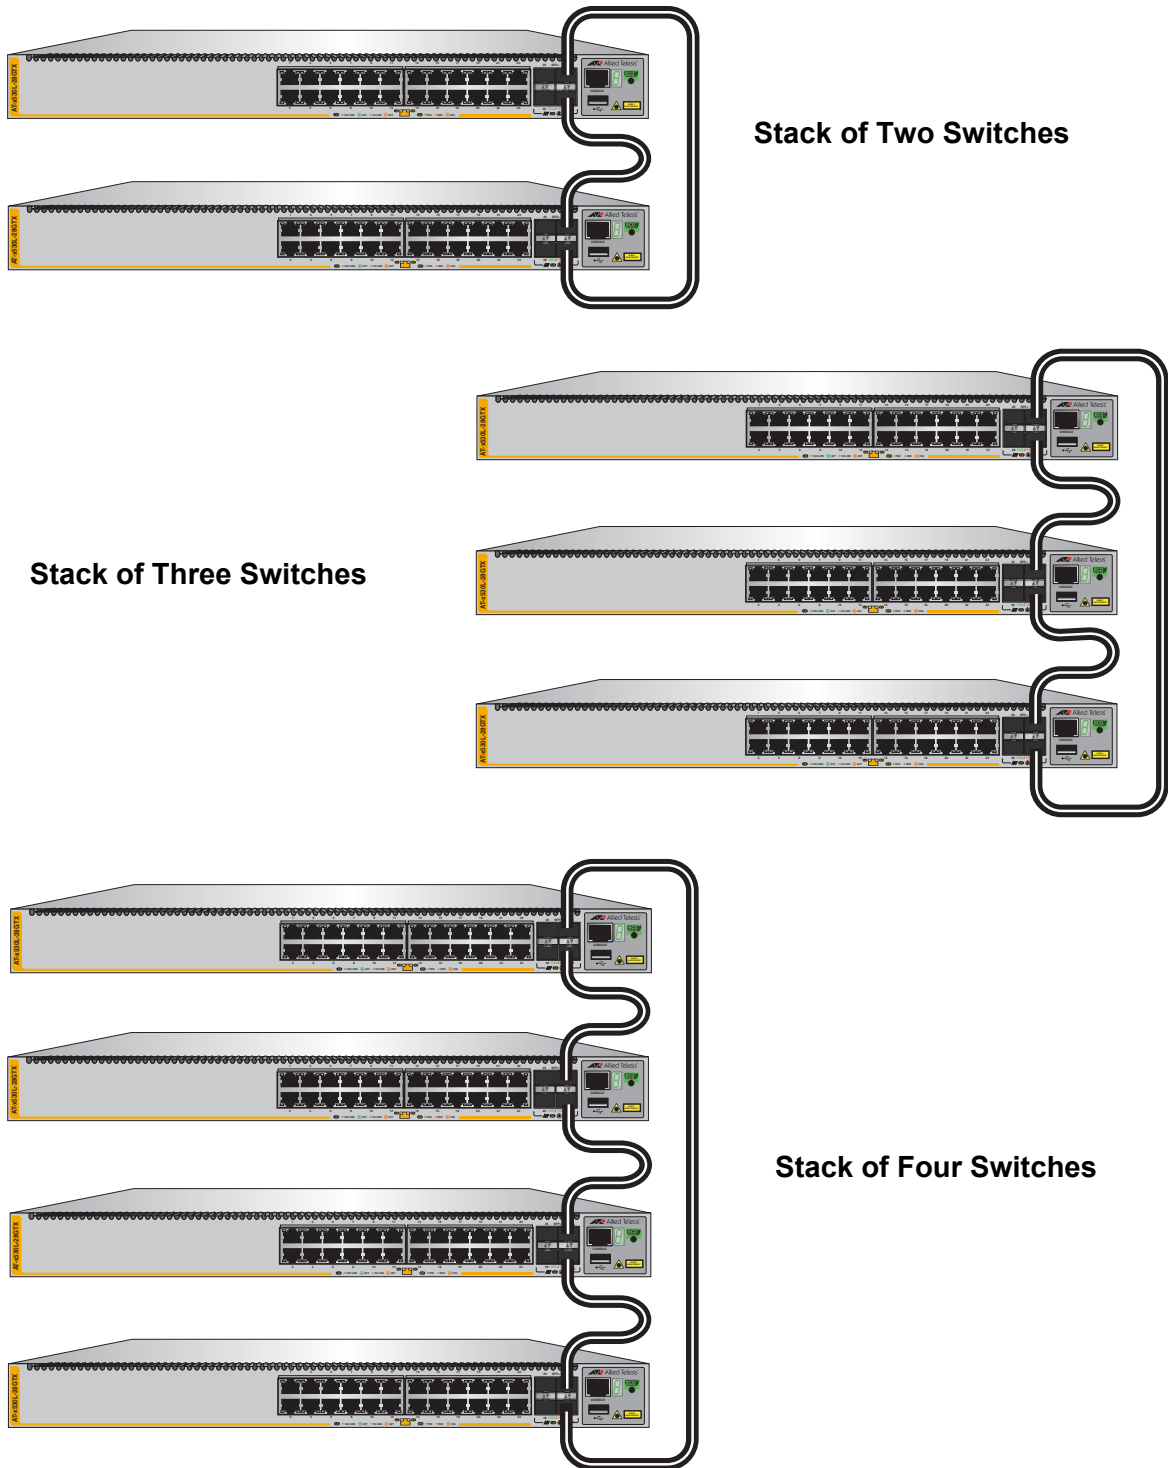

Figure 23. Valid Stack Trunk Using Default Stacking Ports 27 to 28 on 28-Port x530L Switches
- See Figure 23 on page 65 for Valid Stack Trunk Using Default Stacking Ports 27 to 28 on 28-Port x530L Switches.
Figure 23 shows examples of stack trunks for two, three, and four switches, using the default stacking ports 27 and 28 on 28-port x530L-28GPX and x530L-28GTX switches.